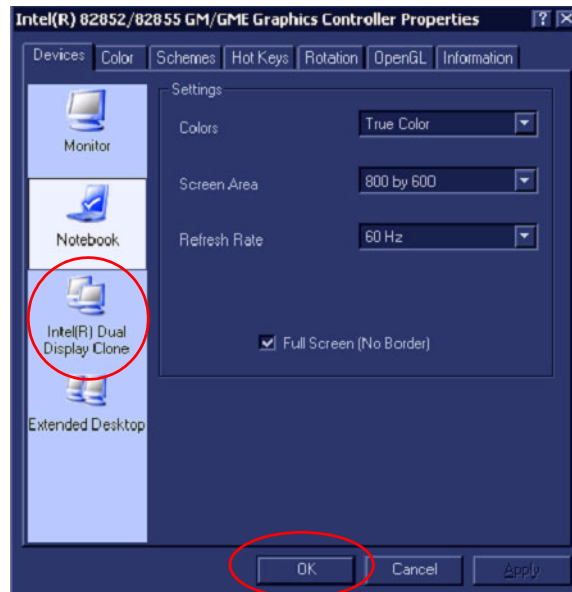

Figure 3-48 Intel® Dual Display Clone
- 9.) Select the Intel® Dual Display Clone icon and press **OK** - see Figure 3-48